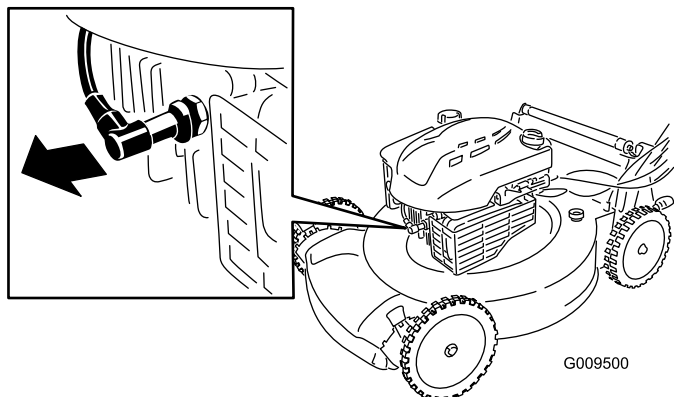

Figure 19
2. Disconnect the spark-plug wire from the spark plug (Figure 19) before performing any maintenance procedure.